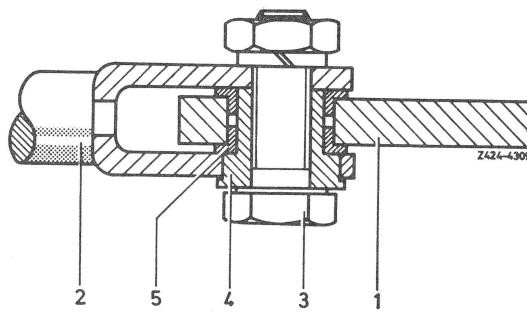

Fig. 7
**10** Attach thrust rod (2) of brake unit with bushing (4) and hex. bolt (3) to brake pedal (1) (Fig. 7).